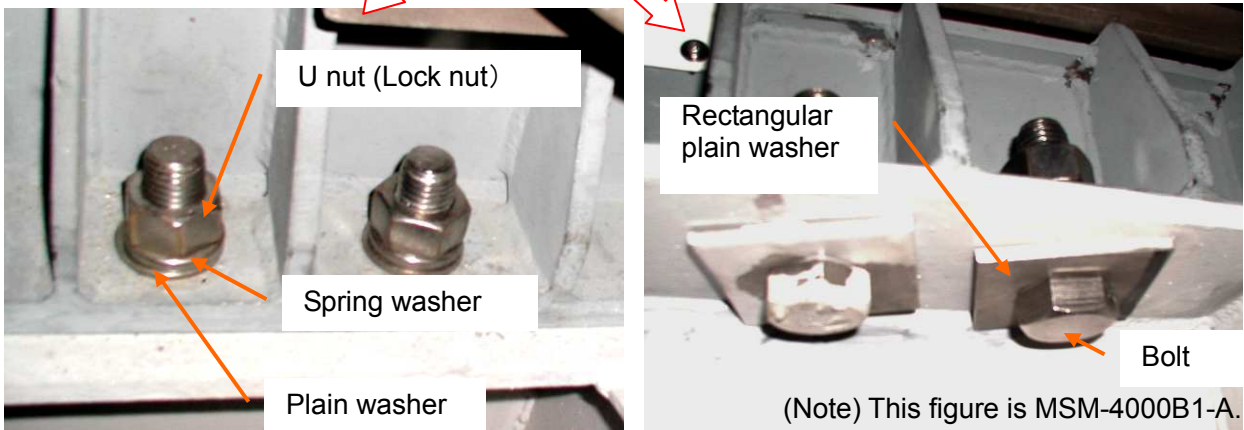

Figure 4-6 Installation of the **ARG** unit
- ② When there is no vibration/noise expected, install the **ARG** unit firmly on the hull, as shown in page 37 Figure 4-4 and page 38 Figure 4-6. Fit the plain washer, spring washer and nuts over each hole in the **ARG** unit frame, pass the installation bolt with the rectangular plain washer from underneath the hull board, then fasten the bolt with the washers and nuts that have been placed on the **ARG** unit frame. **When installing the ARG unit with Anti-vibration rubber, refer to “APPENDIX Procedure for installation of anti-vibration rubber”.**
- ③ If the ship is made of fiber reinforced plastic (FRP), it recommends reinforcing by overlaying with FRP.
- ④ To prevent each bolt from loosening, be sure to use U nut (lock nut) to fasten it.
- ⑤ The installation bolts are 180mm/7.1 inches long. Cut them down to match the thickness of the hull board (including the reinforcement, if used).